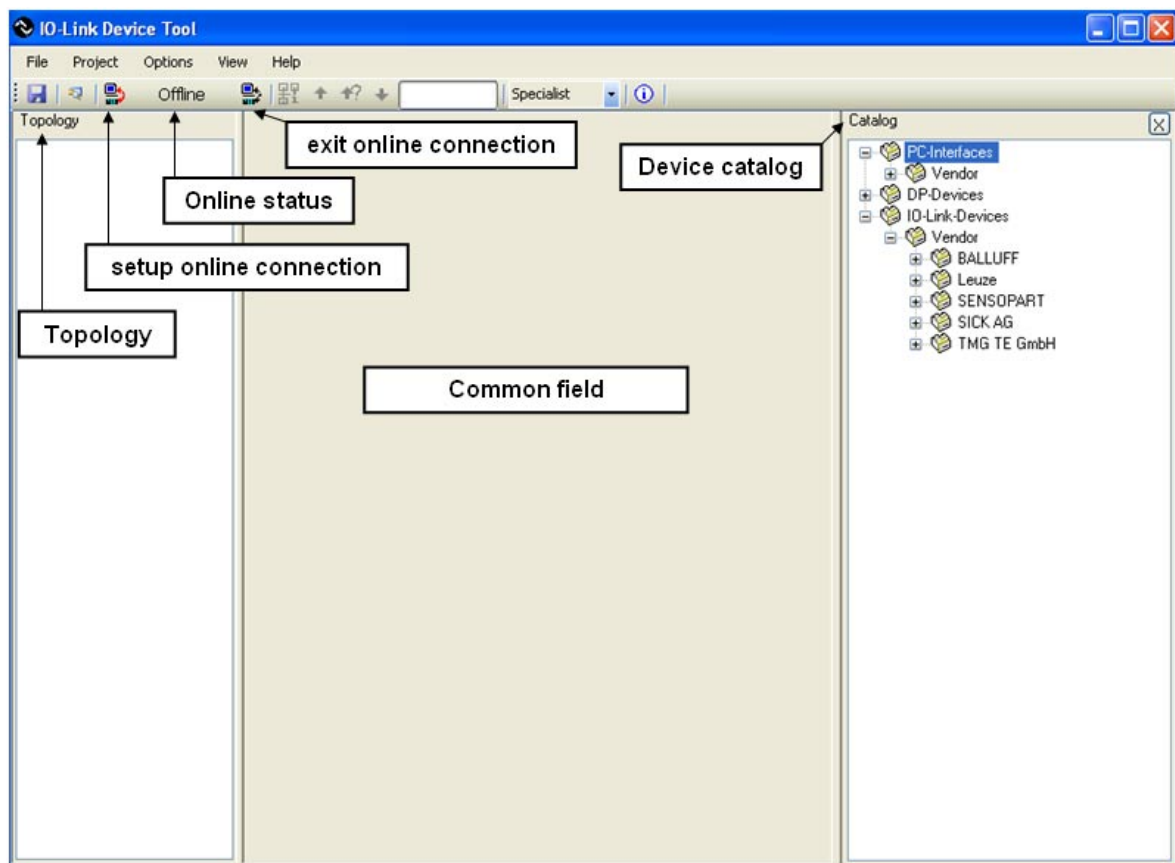

Figure 13-6. IO-Link Device Tool GUI
- (1) Launch the IO-Link device Tool.
- (2) Once the tool is up and running, two panes can be seen in the GUI (Topology on the left, and Catalog on the right), see Figure 13-6.